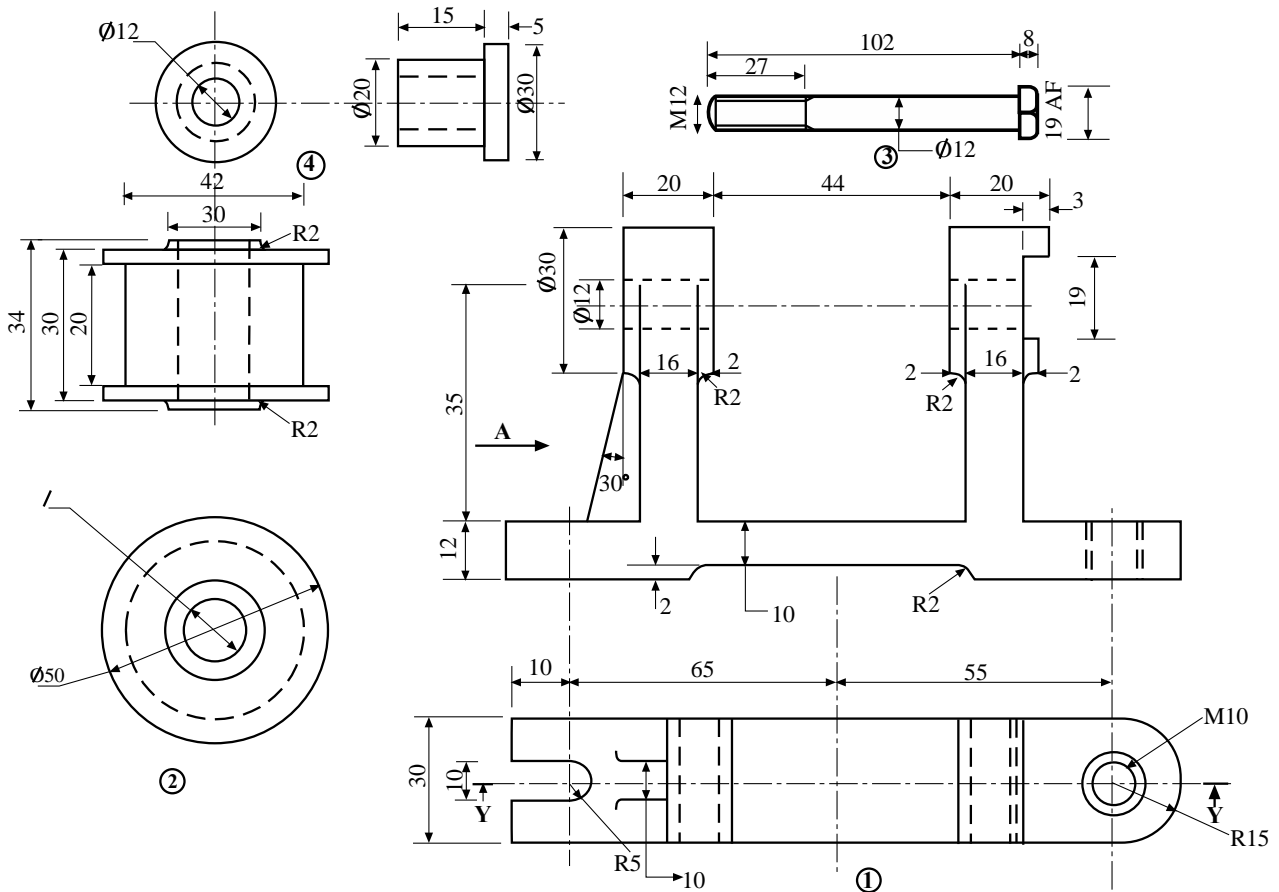

Fig. 3
- 6 The best pulley unit shown in **Fig. 3** consists of a mounting bracket (1), a belt pulley (2), a fitted bolt (3) and two bushes (4).